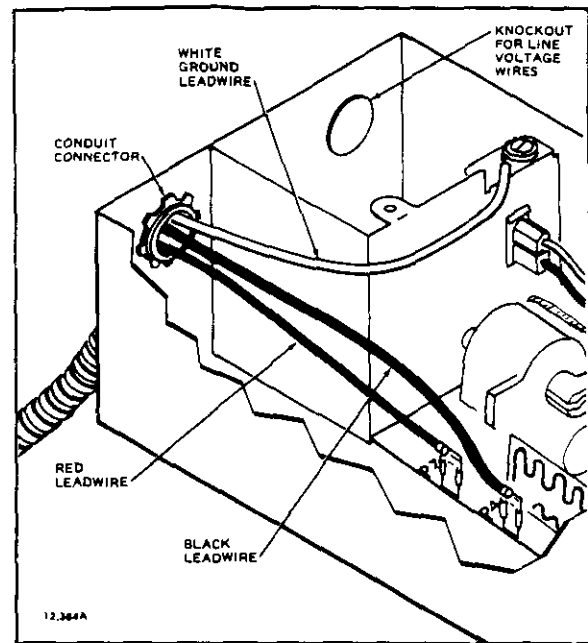

FIG. 16—MAKE WIRING CONNECTIONS IN POWER BOX.
- Connect the red and black leadwires as shown in Fig. 16.